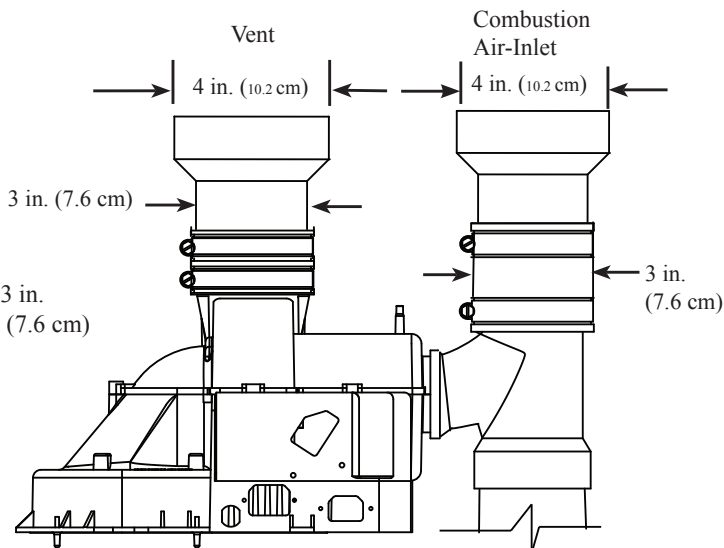

Figure 2
This water heater may also be installed with 4 in. (10.2 cm) diameter pipe and fittings for the vent and combustion air-inlet systems. When using 4 in. (10.2 cm) diameter pipe, one (1), 3 in. (7.6 cm) to 4 in. (10.1 cm) diameter, pipe increaser fitting is required for connection of the vent system piping to the blower assembly (See Figure 2). For the vent terminal, use a 4 in. (10.2 cm) diameter, Schedule 40, PVC, 90°, ¼ standard bend, elbow along with the wire mesh screen that was supplied with the water heater.